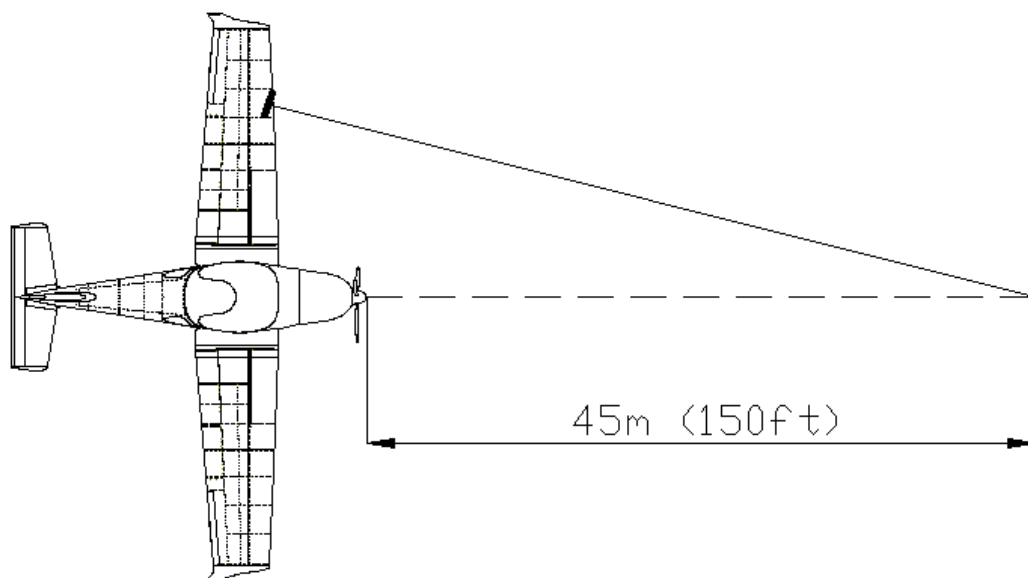

Fig. 11-2
- (b) Do adjustment in the horizontal direction according to Fig. 11-2 in such a way that the light axis is directed towards the airplane axis about 45m (150 ft) before the fuselage nose.